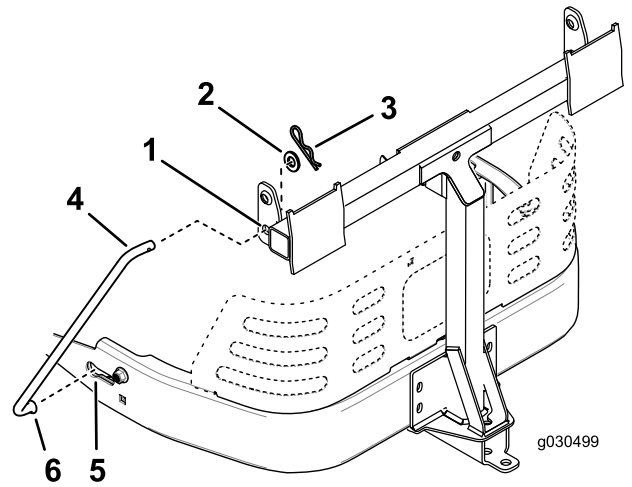

Figure 18
4. Install a bent, flared end of a rod into the keyed slot in the left side of the machine frame, and move the rod rearward to seat it in the frame (Figure 18).